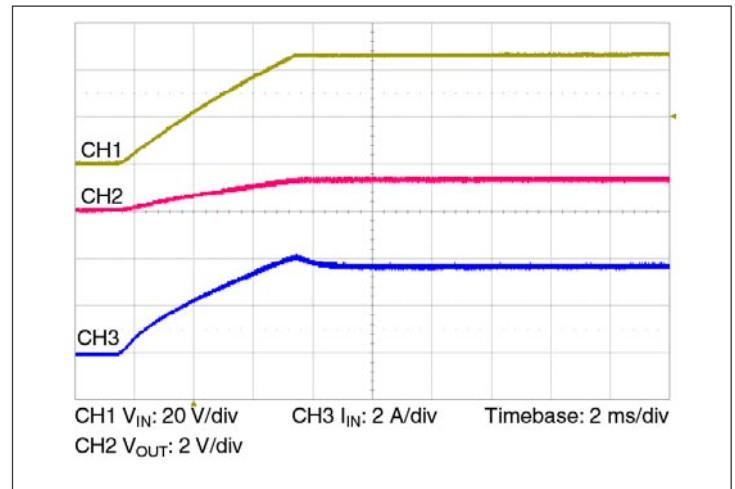

Figure 10 — Start up from application of V_{IN} ; VC pre-applied $C_{OUT} = 64400 \mu F$
- Normal operation (VC applied prior to V_{IN}): In this case the controller is active prior to ramping the input. When the input voltage is applied, the VTM module output voltage will track the input (See Figure 10). The inrush current is determined by the input voltage rate of rise and output capacitance. If the VC voltage is removed prior to the input reaching 26 V, the VTM may shut down.